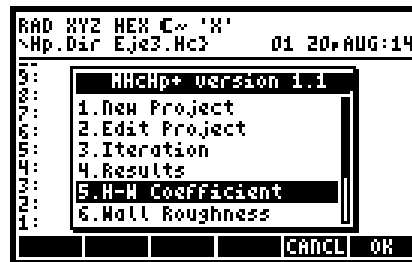

Figure 4.9a
When MHcHp is run, it used arrow keys to select item 5.H-W Coefficient, as figure 4.9a.